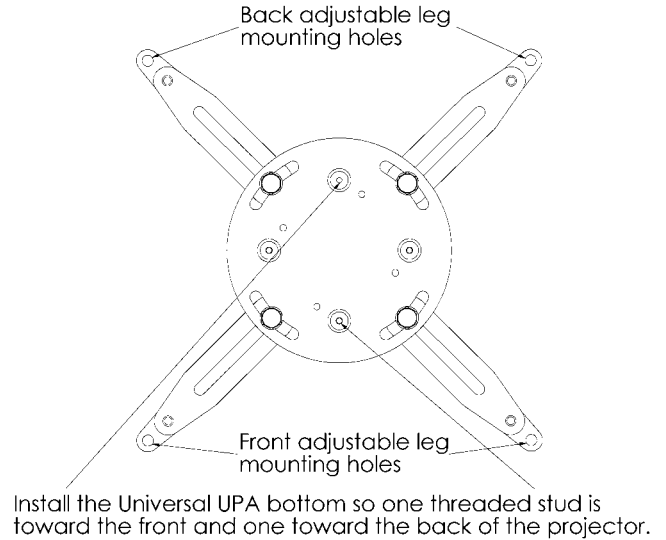

Figure 1. Acorn Nuts
1. Loosen, but do not remove, acorn nuts securing arms of the mount (see Figure 1).
10. Make sure the threaded studs on the round plate are centered on the front and one to the back center of the projector (see Figure 1).